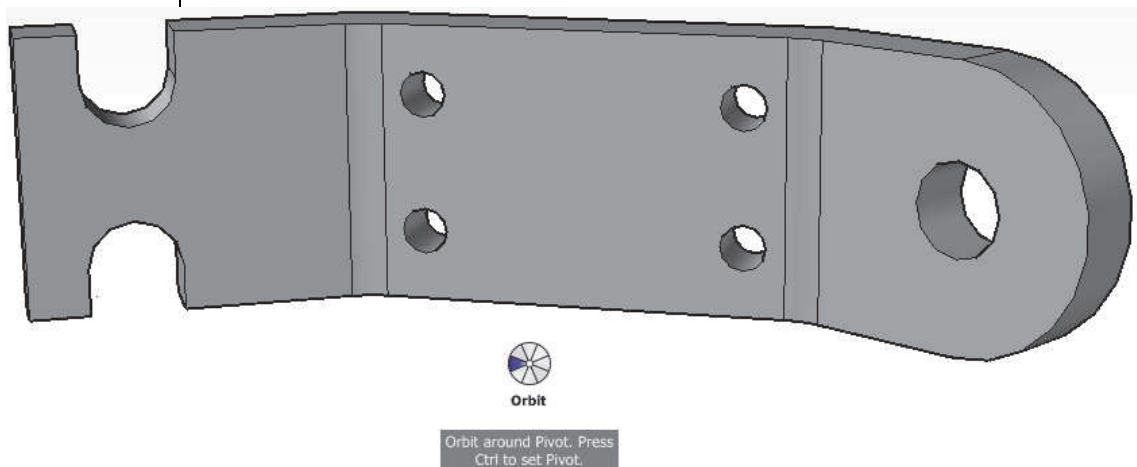

Figure 1–23
2. Zoom, orbit, and pan using the SteeringWheel tools, as shown with the mechanical part in Figure 1–23.